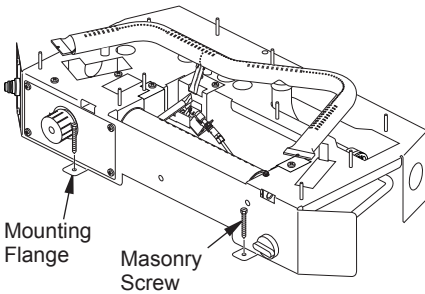

Figure 11 - Attaching Base Assembly to Fireplace Floor
7. Mark screw locations through one hole on each side of the mounting bracket (see Figure 11, page 12). If installing in a brick-bottom fireplace, mark screw locations in mortar joint of bricks.